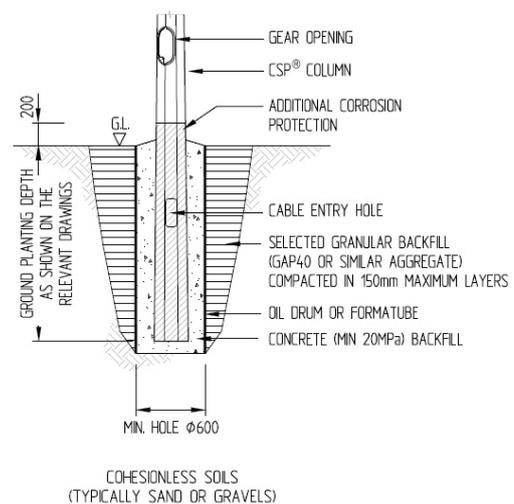

Figure 8b
9.2) Foundations in cohesionless soils (typically sands or gravels) - Figure 8b
2. Place column inside oil drum or Formatube former and fill with concrete (min 20MPa) and allow sufficient time for it to set before applying load. Finish the concrete backfill in a conical shape (Figure 8b).